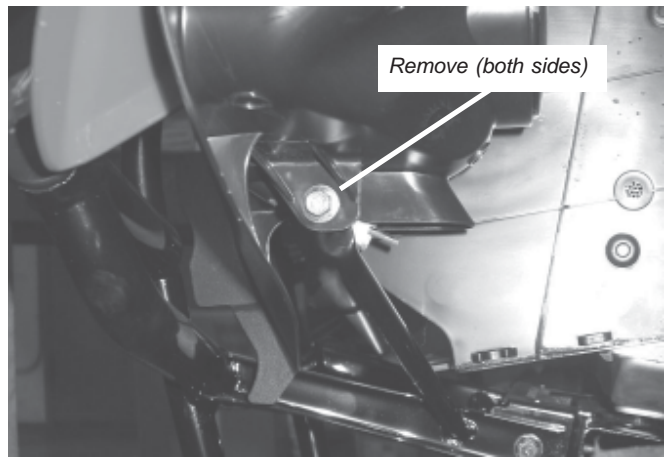

Figure 4 Front Bumper Bolts
- Remove the two 6mm bolts that attach the front bumper to the plastic headlight assembly, figure 4. Save the fasteners as they will be used to reinstall the front bumper.